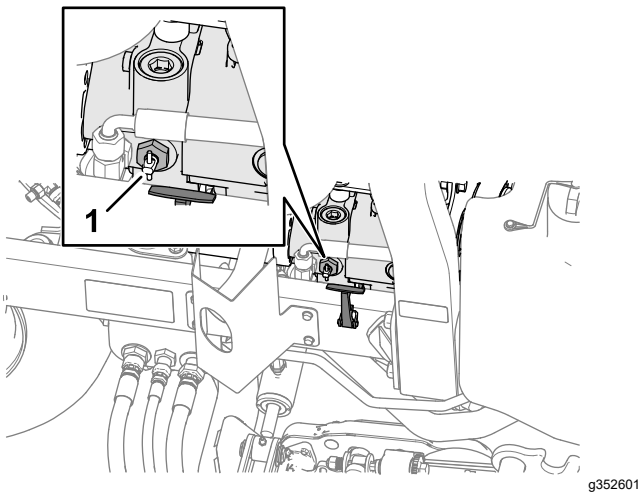

Figure 52
2. Near the right hood latch, rotate the handle bypass valve on the pump (Figure 52) and rotate the valve 90°.